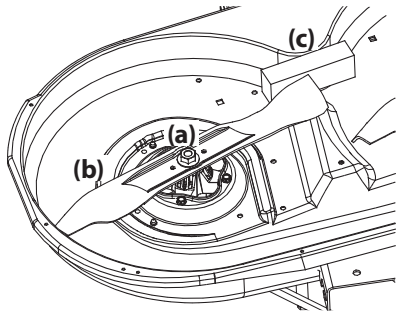

Figure 59
2. Use a $1\frac{5}{16}$ " wrench to hold the hex nut on top of the spindle assembly when loosening the hex nut (a) securing the blade (b). A block of wood (c) may be placed between the deck housing and the cutting edge of the blade (b) to help in breaking loose the hex nut (a) securing the blade. See Figure 59.